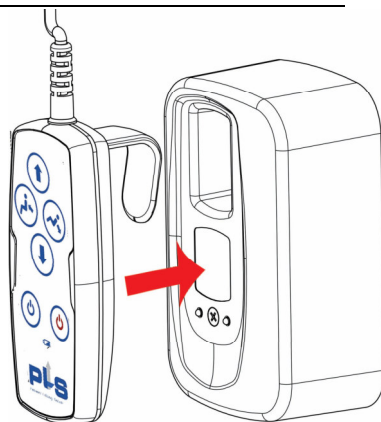

Figure 7, Hand Control in wall charger
1. Place the Hand Control in the wall holder (*Figure 7, page 12*).